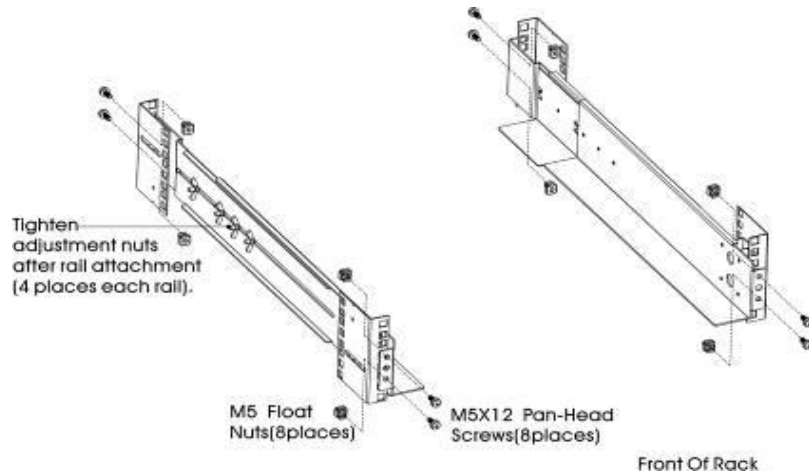

Figure2 Fixing the Rails
- b) Select the proper size in the rack for positioning the UPS (see Figure 2). The rail occupies four positions on the front and rear of the rack.